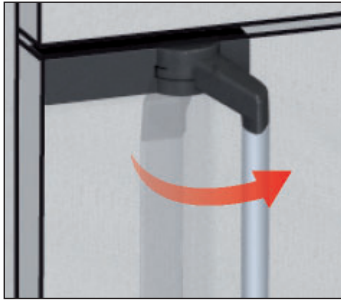

Fig. 17 Opening the door
- ▶ To open the doors, pull the door handle away from the appliance (to the left or to the right, depending on the door variation, see Fig. 17) and open it.